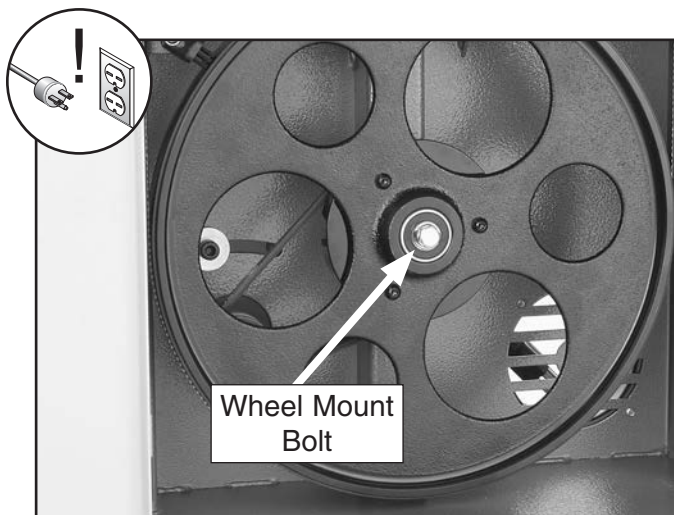

Figure 61. Wheel mount bolt.
4. Unthread the wheel mount bolt shown in **Figure 61** and slide the lower wheel off of the bearing shaft.